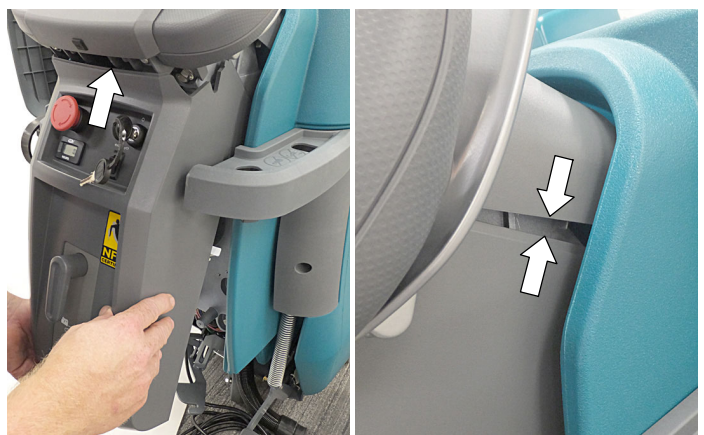

Fig. 11
- Replace the control console. When replacing console, engage the top half of the console first then align the lower screw mounting locations (Figure 11). Make sure the side panels align and engage correctly before replacing to lower torx screws.